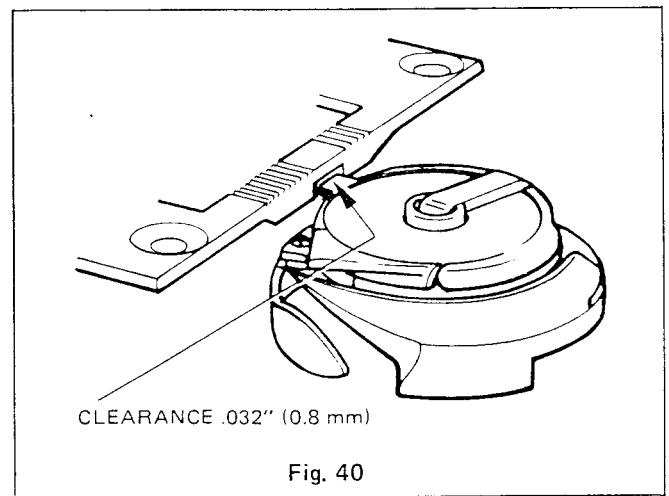

Fig. 40
The clearance between bobbin case stop finger and throat plate should be .032 inch (0.8 mm), as shown in Fig. 40.
4. Check hook height in compliance with Fig. 40 on page 17.